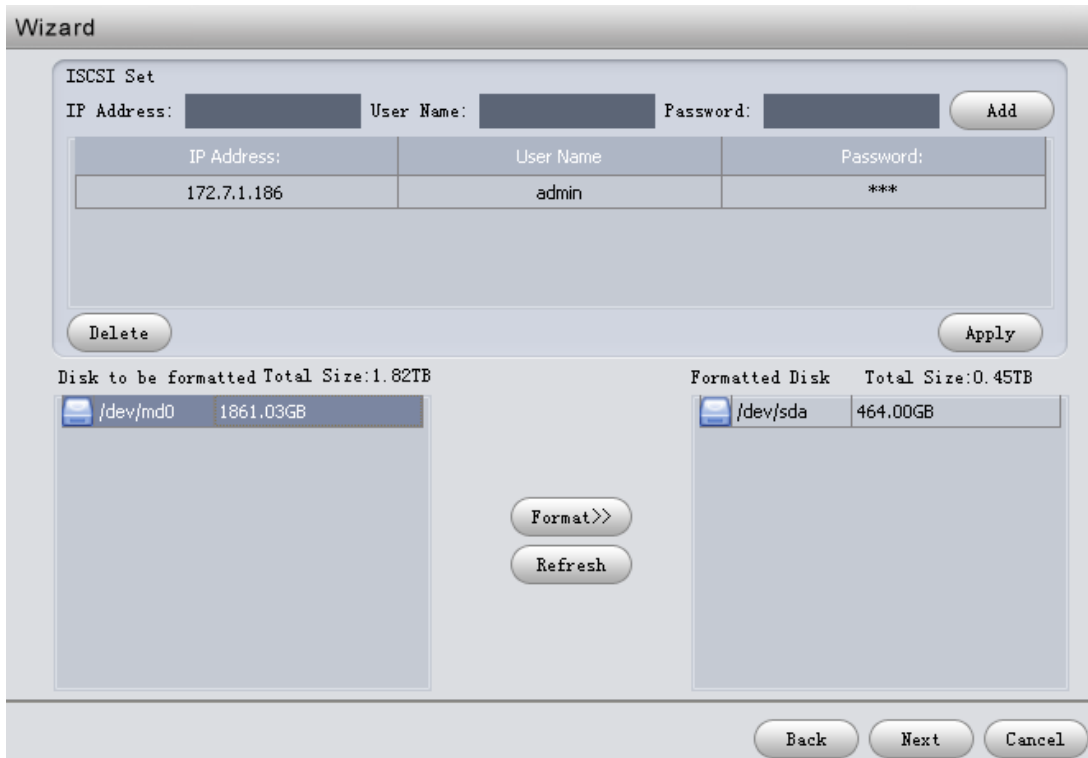

Figure 2-11
- b) On iSCSI interface, input ESS IP address, user name, and password and then click Add button. See Figure 2-11.